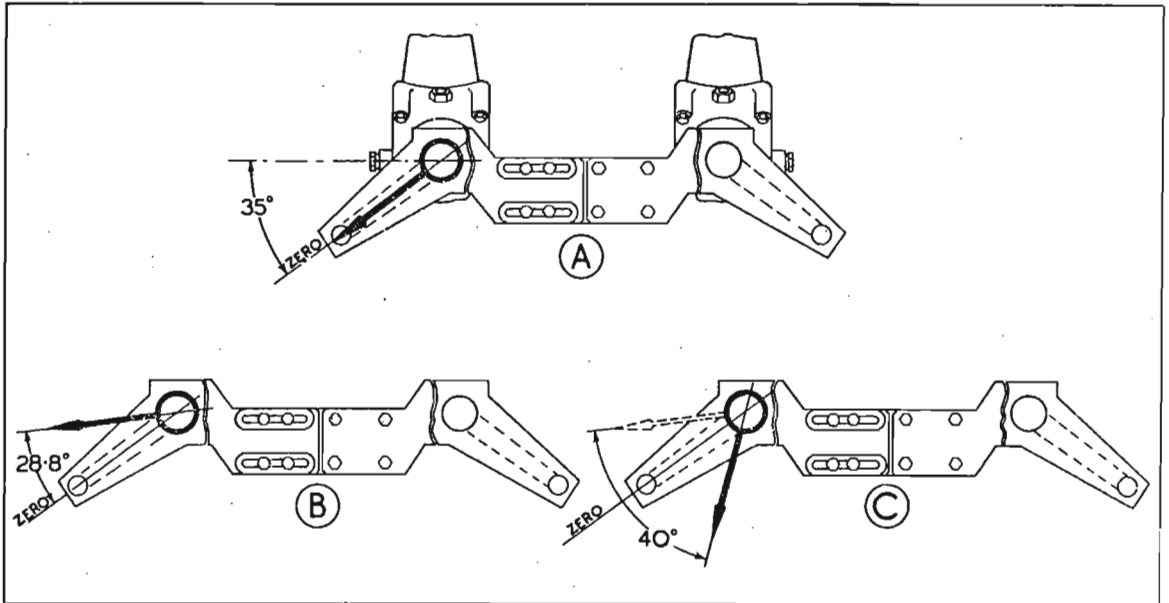

Fig. 3.
19. Fit a pointer on the end of each torsion bar in the zero position, (see fig. 3, (A)).
23. The pointers on both torsion bars will now have been moved through 28.8 deg. from the zero position, (see fig. 3 (B)).
24. Detach the pointers and re-set each pointer three serrations lower, i.e. - with the pointers moved through 40 deg. from their last position, (fig. 3, (C)), ensuring that the pointer is slid inwards sufficiently to allow the serrated spanner to be used on the end of the torsion bar.